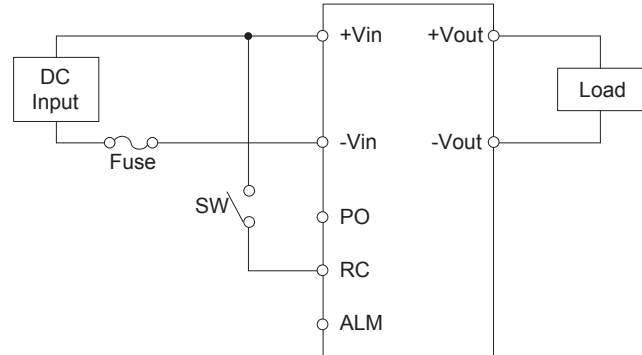

Fig.2.1 Connection for standard use
■ In order to use the power supply, it is necessary to wire as shown in Fig.2.1.